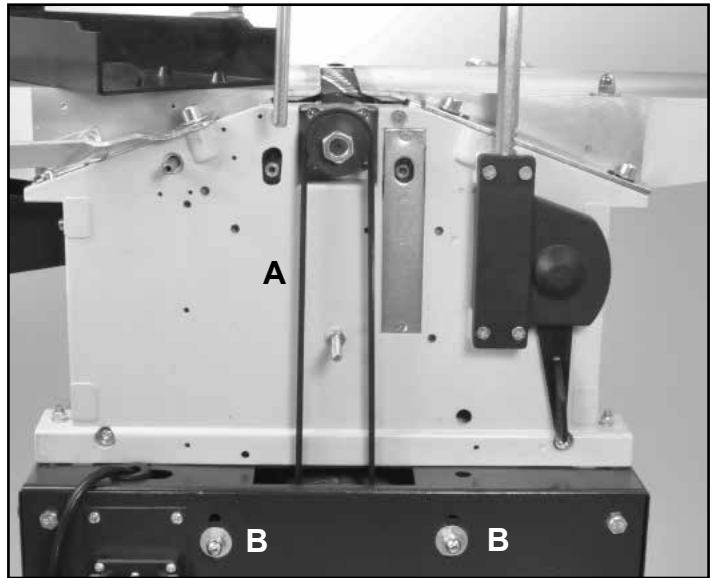
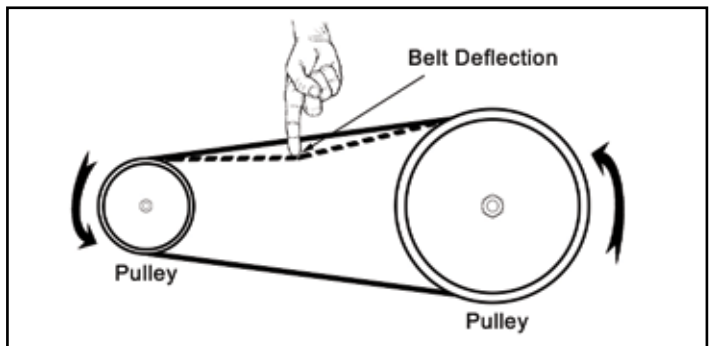

FIG. 27
FIG. 29
The cutterhead drive belt and the feed gear drive belts need to be checked periodically and re-tightened if necessary. Belts will stretch with use, especially when they are new and are breaking in. Both drive belts are located behind the machine's front and rear covers. FIG. 27 & 28. To inspect, adjust or change the drive belts:
3. Check the *Cutterhead Drive Belt* (#309, FIG. 27, A) tension with thumb pressure. The drive belt should not give more than 3/8" in the center. FIG. 29.
4. From the front of the machine, loosen the four Nuts (#315, FIG. 27, B) that secure the motor in place. Lift the motor to slacken the tension on the drive belt, or move it down to increase the belt tension.
1. To replace the *Drive Belt* (#309), follow the same steps, #3-5 above. Loosen the tension until the belt can be easily removed from the Motor Pulley (#311) and Cutterhead Pulley (#235). Once removed, reverse the steps to install and re-tension the new belt on the pulleys. FIG. 27.